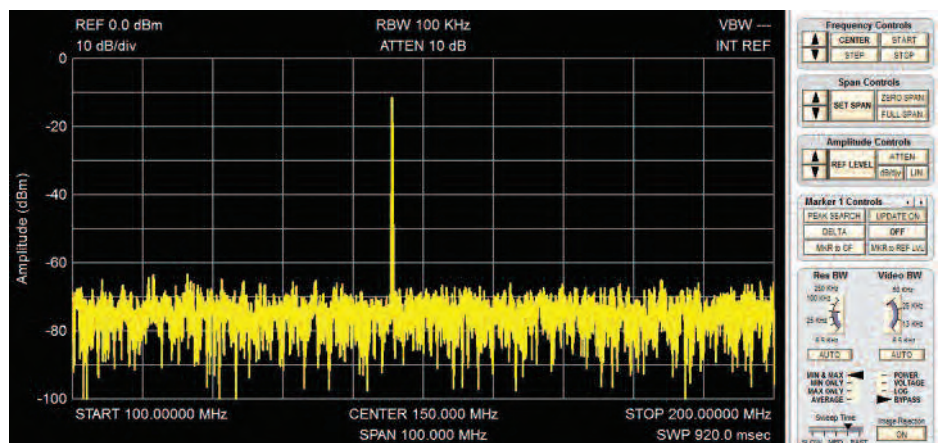

FIGURE 1: 144MHz output from Kenwood TH-6F.
**Figure 1** shows the captured output spectrum from my Kenwood TH7 handheld (suitably attenuated) when transmitting an unmodulated carrier on the 144MHz band. The GUI provides a large screen area for the spectrum display in a 10 by 10 matrix. The usual spectrum analyser control 'buttons' are located down the right side of the screen. The 145.500MHz signal is the vertical line near the middle of the frequency scale.